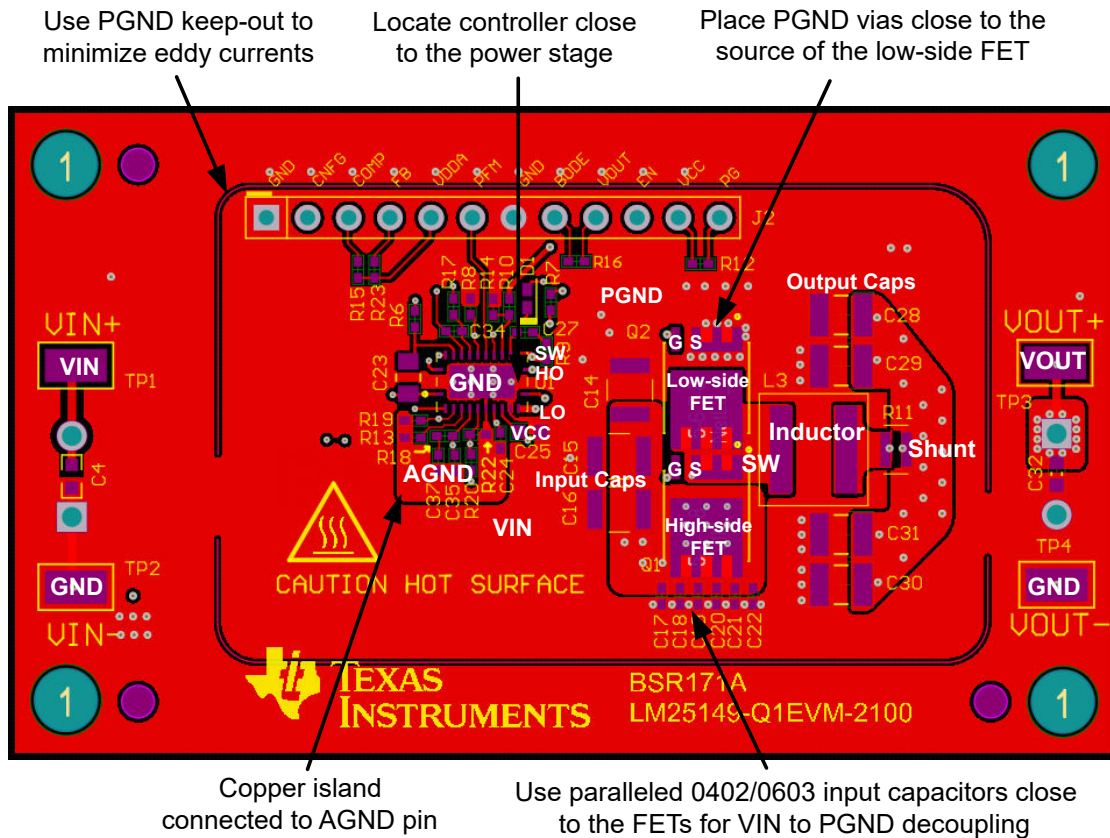

图 9-48. PCB Top Layer – High Density, Single-sided Design
- Connect AVSS to a quiet GND connection, further from IC if possible. Keep decoupling capacitor $C_{AEFVDDA}$ close to the AEFVDDA pin and AVSS GND connection. See capacitor C23 in Figure 9-48.
图 9-48 shows a single-sided layout of a synchronous buck regulator with discrete power MOSFETs, Q1 and Q2, in SON 5-mm × 6-mm case size. The power stage is surrounded by a GND pad geometry to connect an EMI shield if needed. The design uses layer 2 of the PCB as a power-loop return path directly underneath the top layer to create a low-area switching power loop of approximately 2 mm². This loop area, and hence parasitic inductance, must be as small as possible to minimize EMI as well as switch-node voltage overshoot and ringing.
- Make the ground connections to the LM5149 controller as shown in 图 9-48. Create a power ground directly connected to all high-power components and an analog ground plane for sensitive analog components. The analog ground plane for AGND and power ground plane for PGND must be connected at a single point directly under the IC – at the die attach pad (DAP).